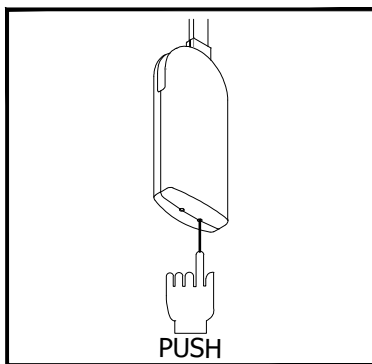

Fig. 22
- 1 - Press and hold the programming button (Fig. 22) for 5 seconds; when released, the control unit will "BEEP" twice.
If you want to delete all the remote controls, press and hold the programming button (Fig. 22) for 10 seconds; when this button is released, there will be three consecutive "BEEPS", indicating that all the synchronised remote controls have been deleted.